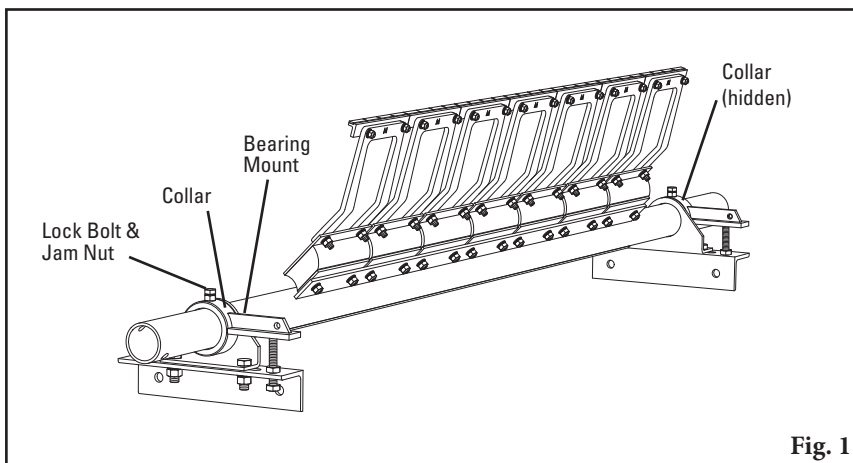

Fig. 1
- 2b. **Put a level on top of the pulley shaft and draw a horizontal line A.** Measure down from Line A half the diameter of the pulley shaft and draw Line B parallel from the pulley shaft (Fig. 1).
- 2b. Put a level on top of the pulley shaft and mark A at the structure.** Measure down from Mark A half the diameter of the pulley shaft and mark B, locating the shaft centreline (Fig. 1).
- 8a. **Install the Tensioning System.** With the pole rotated up so that all the tips contact the head pulley, slide a collar on each end of the pole. Position the collars tight against the bearing mounts and tighten the lock bolt and jam nut on each collar (Fig. 1).
1. **Install the pole.** Remove the two bearing block bolts from one of the bearing blocks (Fig. 1). (If chute mount, remove from the side with access hole.) Slide the pole across the pulley and into the bearing block on other side and allow tips to hang down. Install the removed bearing block on the pole and reattach to the mounting bracket. Do not tighten; leave finger tight.